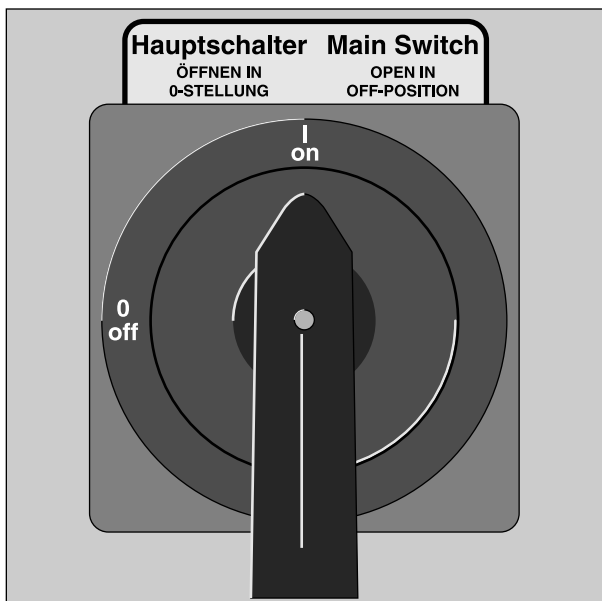

Figure 3-3. Main switch
- \* Switch OFF the main switch (Figure 3-3), if it is ON.
- \* Turn ON the main switch (Figure 3-3).